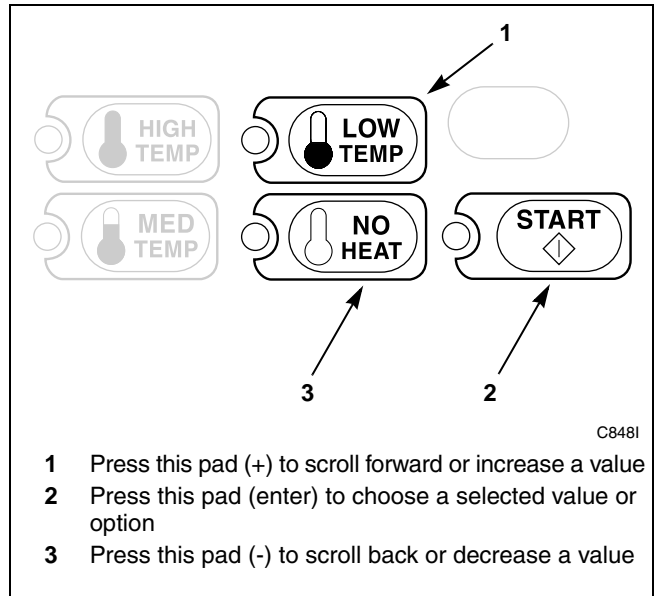

Figure 134
5. Press the LOW TEMP (+) or the NO HEAT (-) keypad to increase or decrease the month until correct. Refer to *Figure 134*.